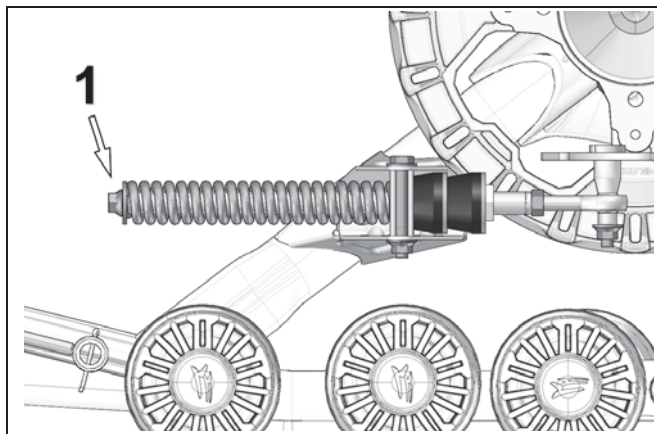

Figure 9
- Verify that the spring assembly bolt (1) is tightened to the recommended torque [40 N·m] and that stabilizing arm components are in the correct order. See Figure 9.